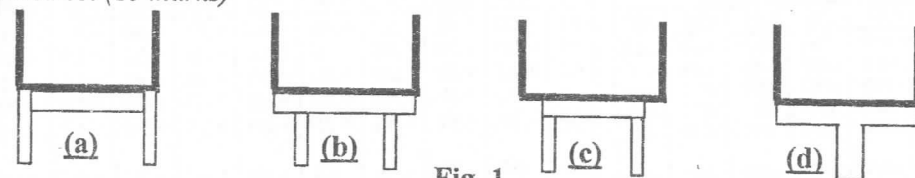

Fig. 1
A. For the shown four U-shaped open conduit water tanks in Fig. 1 of 8.5 m width and 2.8 m height, it is required to: (15 marks)